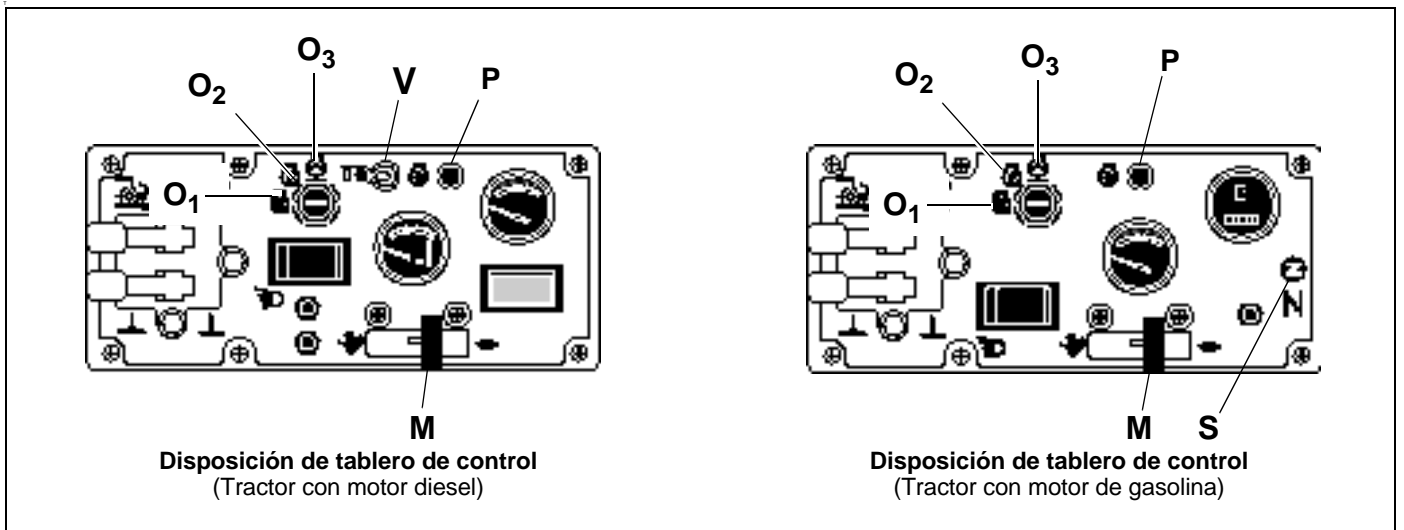

Figura 4A
4.4 ARRANQUE DEL MOTOR (Figura 4A)